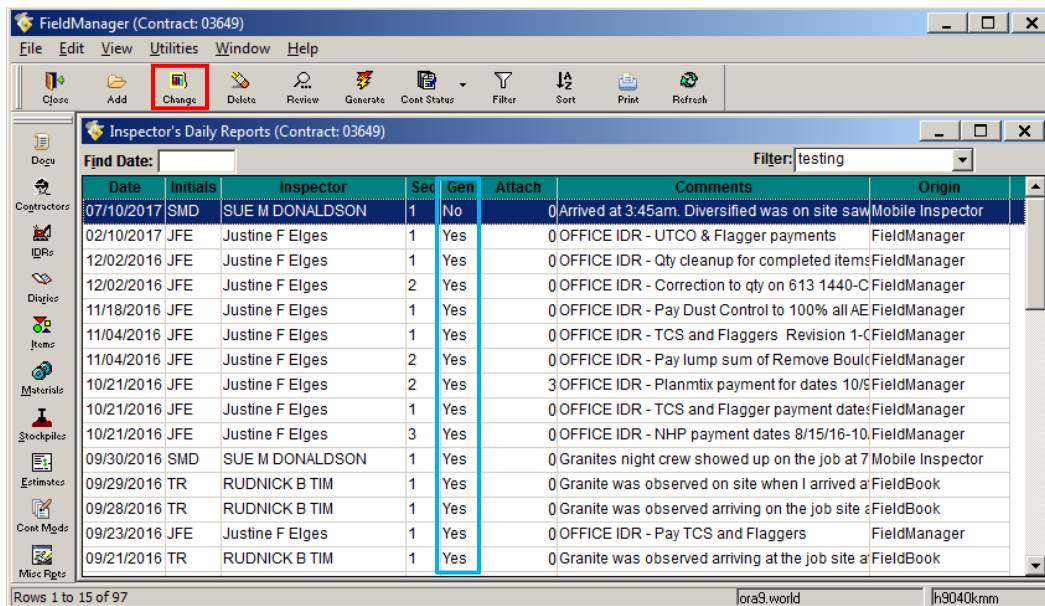
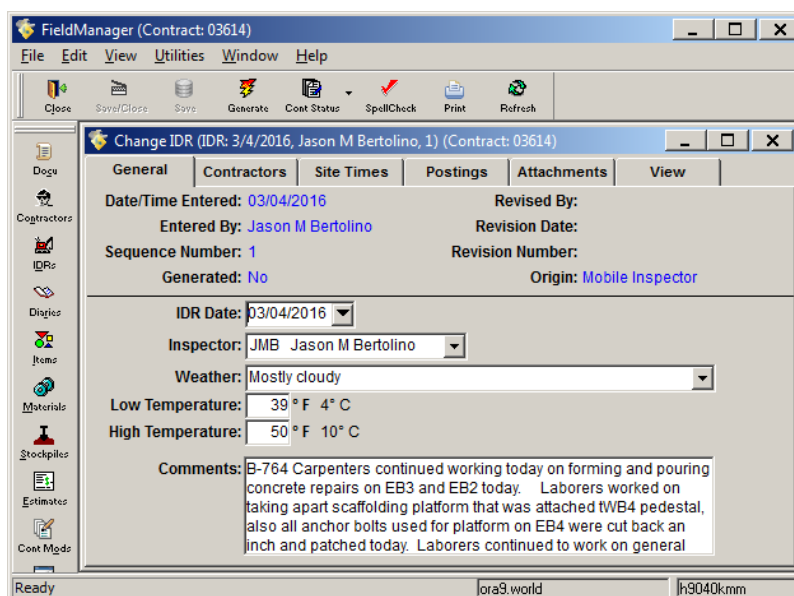

Figure 7-9. Inspector’s Daily Reports List Window
Figure 7-10. Change IDR Window – General Tab
1. Select the IDR from the Inspector's Daily Reports list and click **Change** on the Application Toolbar (Figure 7-9) or double-click on the IDR. The Change IDR windows opens in the General tab (Figure 7-10).